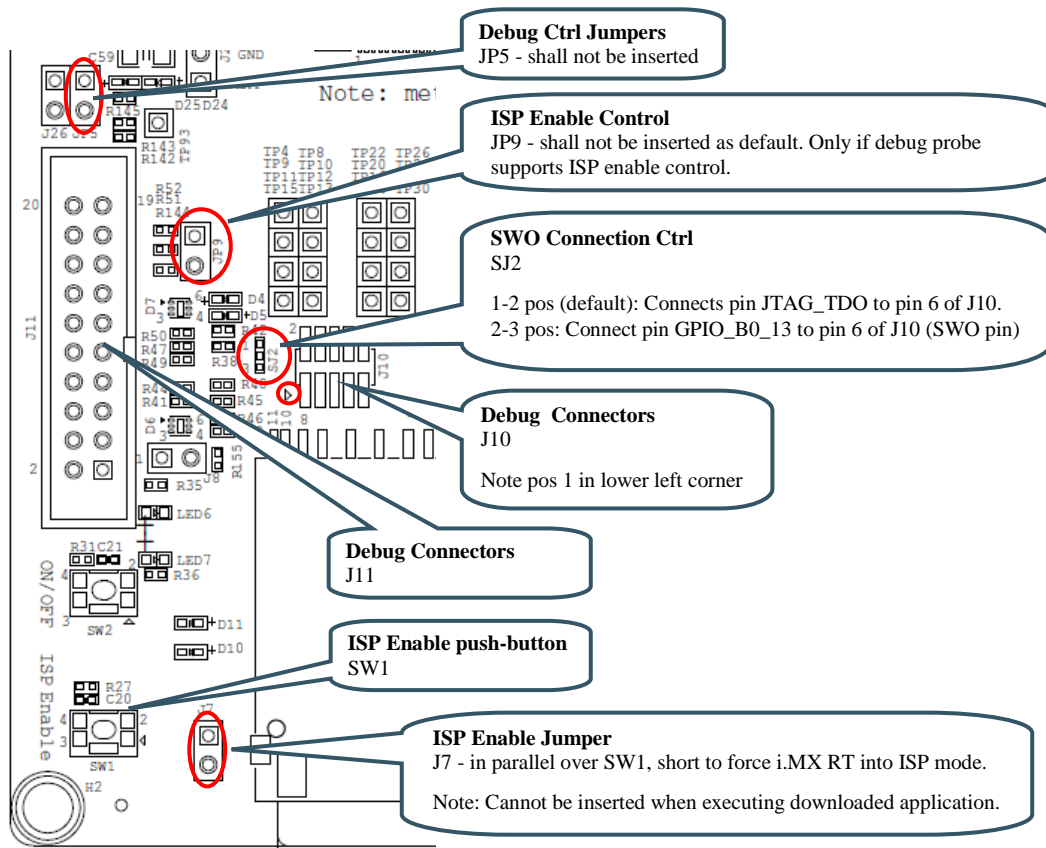

Figure 19 – Debug Interfaces and ISP Enable Control
- J10 – this is a Cortex Debug connector. It is a 2x5 pos, 50 mil pitch connector without a shroud. Be careful when inserting the debug probe cable. Position 1 is in specifically marked on the PCB silkscreen. It is located in the lower right corner, see Figure 19 below. The connector supports both the SWD and JTAG interfaces.